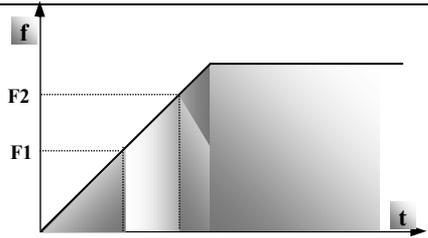

Fig 5-2 Skip Frequency
- “Skip Area” refers to the difference value between upper and lower frequencies of the skip frequency, e.g., with skip frequency of 20Hz, and skip area of  $\pm 0.5\text{Hz}$ , automatic tripping off will happen when inverter has its output within 19.5 ~ 20.5Hz (as F1 ~ F2 in Fig 5-2).